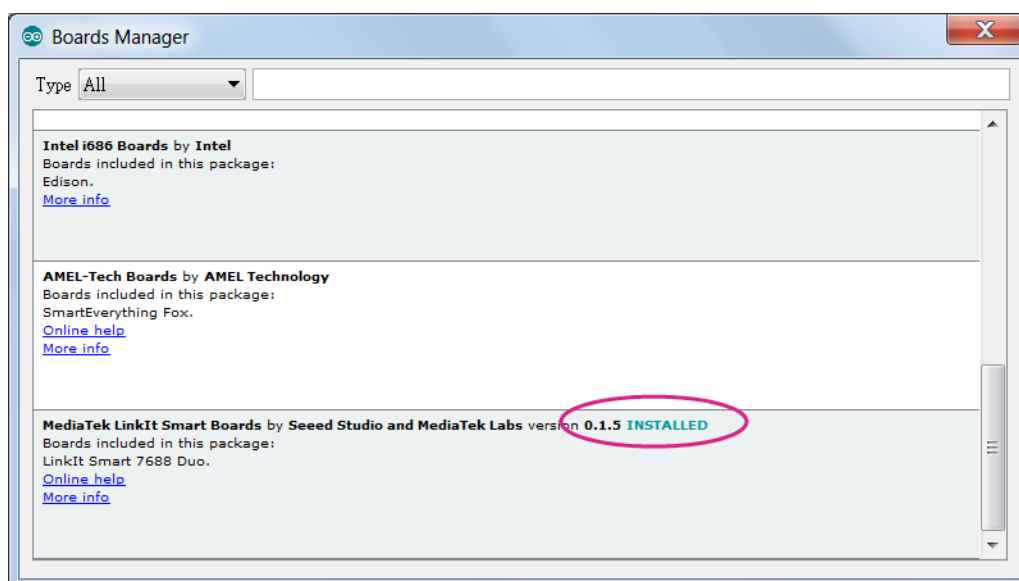

Figure 48 LinkIt Smart 7688 Duo board package installed on Arduino IDE
6) The installation completes, as shown in Figure 48.